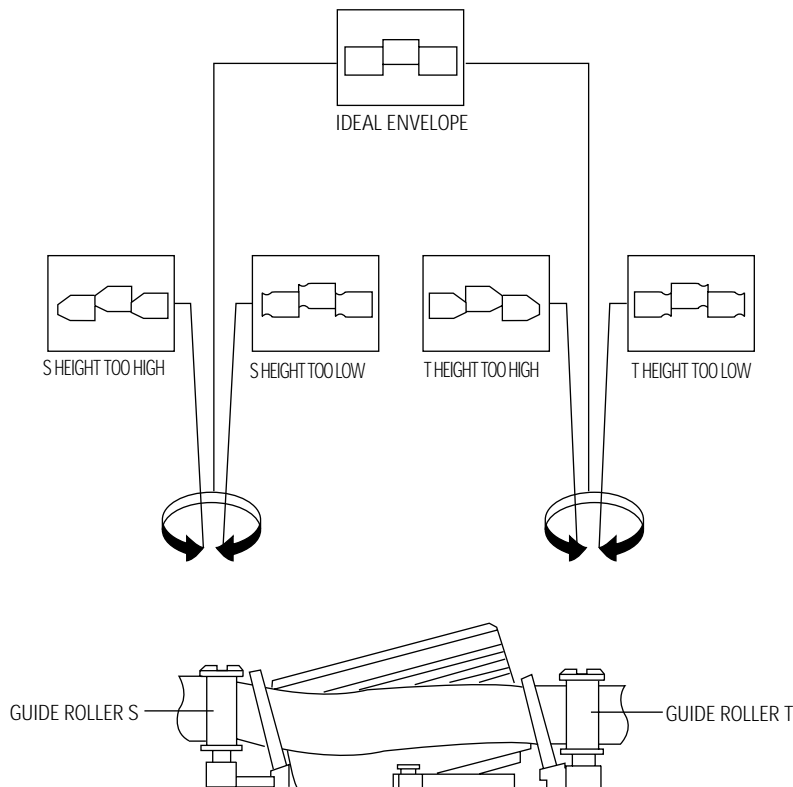

Fig. 5-11 Guide Roller S, T Height Adjustment
- 8) Turn the guide roller heads with a flat head (🔩) driver to obtain a flat video RF envelope as shown in Fig. 5-11.